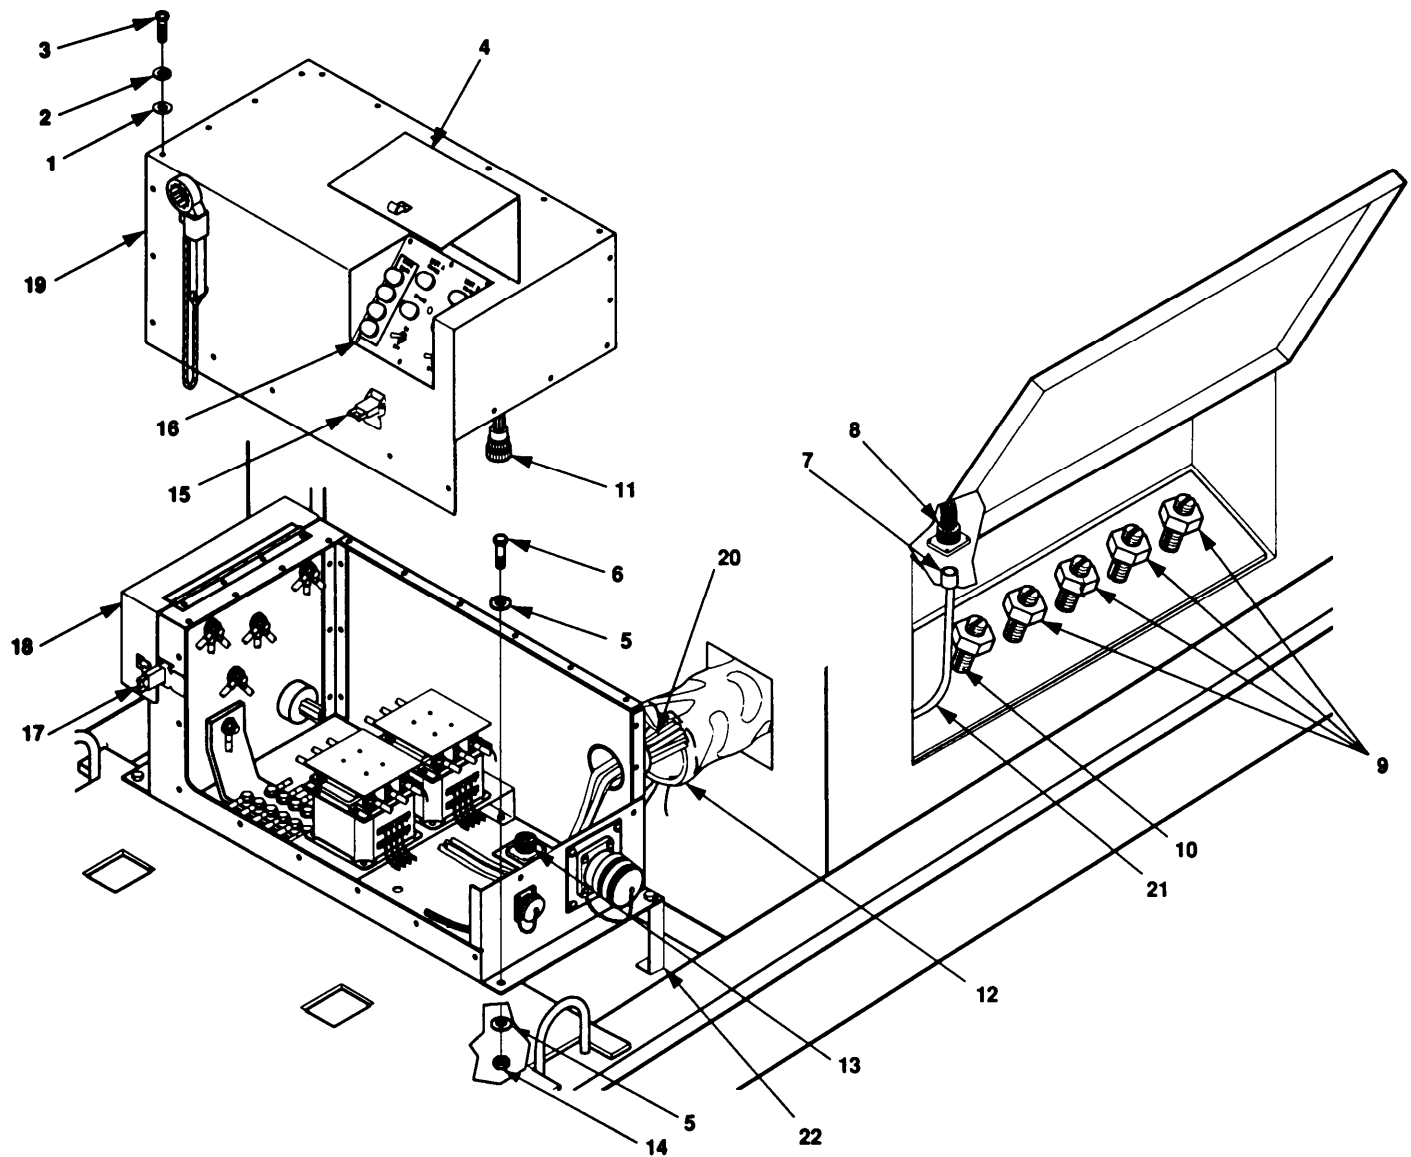

Figure 4-9. Switch Box Assembly Maintenance.
1. Remove four nuts (14, figure 4-9), flat washers (5), and screws (6) that secure switch box assembly.
2. Disconnect W1, W2, W3, and W4 from the generator set load terminals (9).
3. Disconnect W5 from the generator set ground terminal (10).
4. Disconnect P1 (7) from J16 (8) of the generator set.